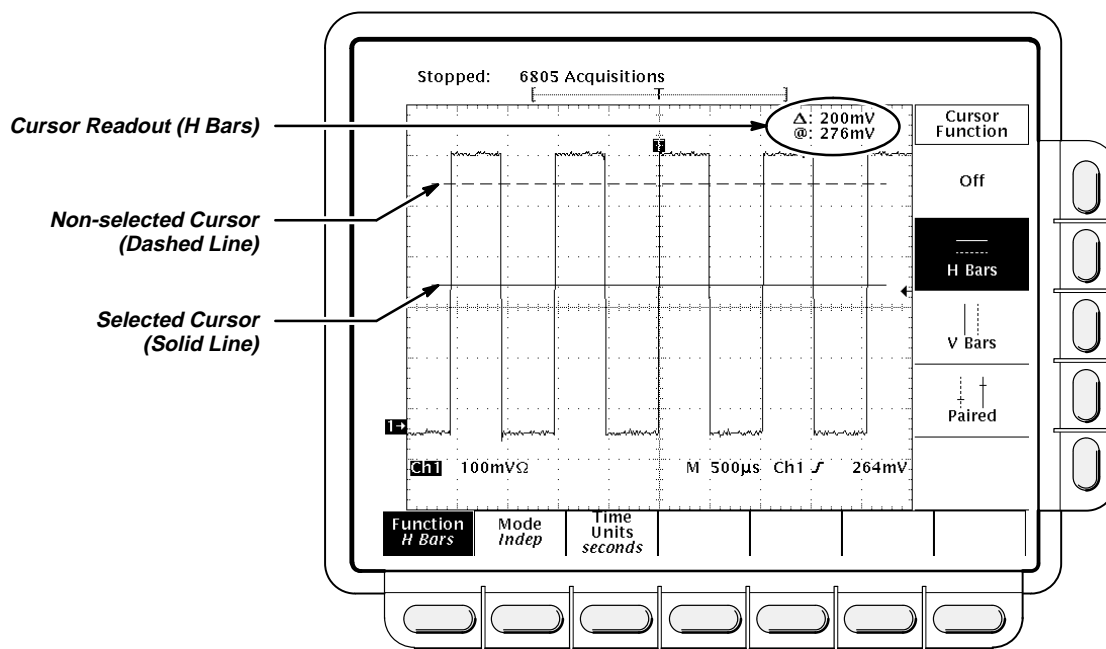

Figure 3-6: H Bars Cursor Menu and Readouts
- **H Bars:** the value after Δ shows the voltage difference between the cursors. The value after @ shows the voltage of the selected cursor relative to ground (see Figure 3-6).
To take cursor measurements, press **CURSOR** to display the Cursor menu (Figure 3-6).